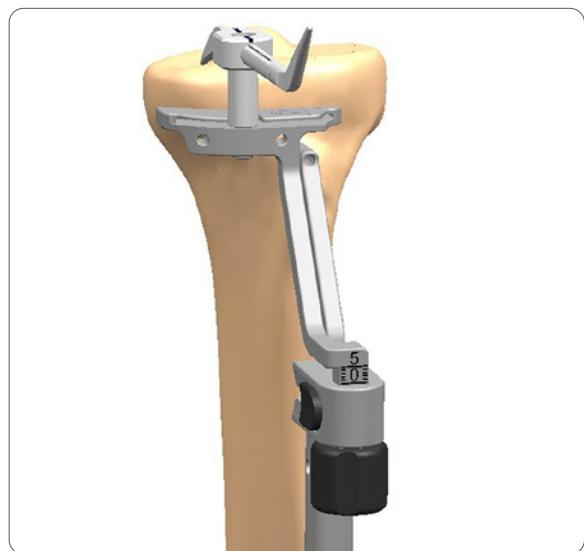

Figure 92
3. Insert the 2 and 10mm Pegged Tibial Stylus into the hole of the Cutting Guide (**Figure 92**).